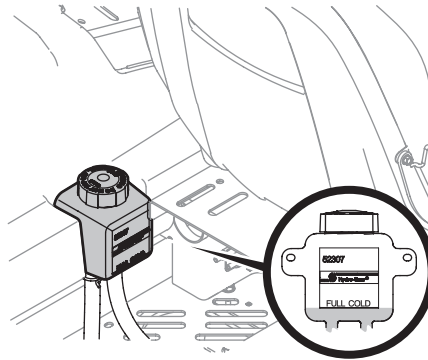

Figure 4-4
1. Pivot the operator's seat forward and clean the reservoir cap and the area around the cap to prevent debris from contaminating the transmission oil. See Figure 4-4.
2. Turn the reservoir cap counterclockwise to re-move, then check the oil level in the reservoir. Oil should be visible at the bottom of the cup, but the oil level must NOT be above the "FULL COLD" line. See Figure 4-4. DO NOT FILL THE RESERVOIR.